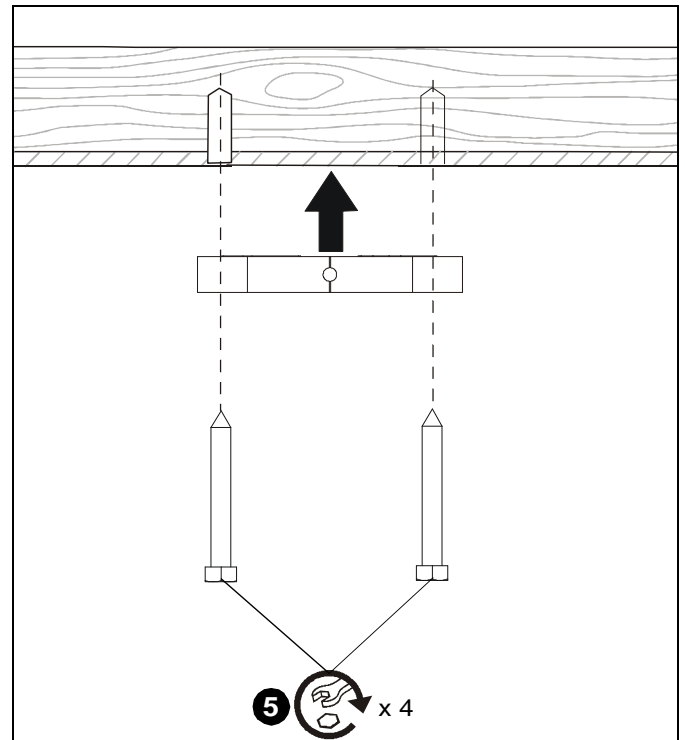

Figure 2
4. Align four mounting holes in CMA101 with four pilot holes. (See Figure 2)
5. Secure CMA101 to structure using four 5/16" x 3-1/2" Grade 2 lag bolts (not included). (See Figure 2)